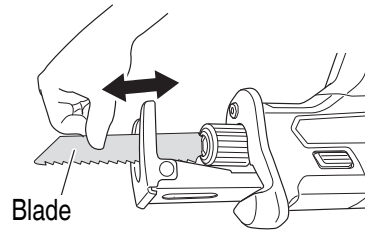

Fig. 10
- (3) Pull the back of the saw blade two or three times by hand and check that the blade is securely mounted. (Fig. 10)